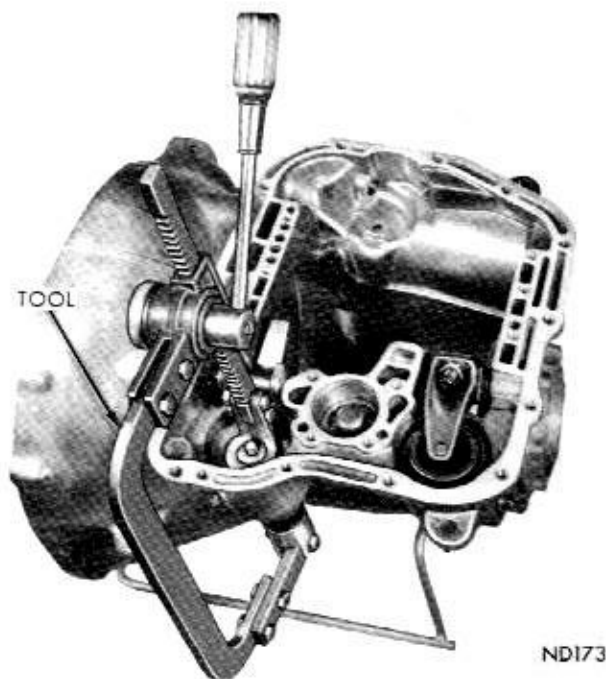

Fig. 35—Compressing Kickdown Servo Spring
- (1) Compress kickdown servo spring by using engine valve spring compressor, Tool C-3422, then remove snap ring (Fig. 35).
(2) Remove rod guide, springs and piston rod from the case. Be careful not to damage piston rod or guide during removal.
- (3) Withdraw piston from the transmission case.